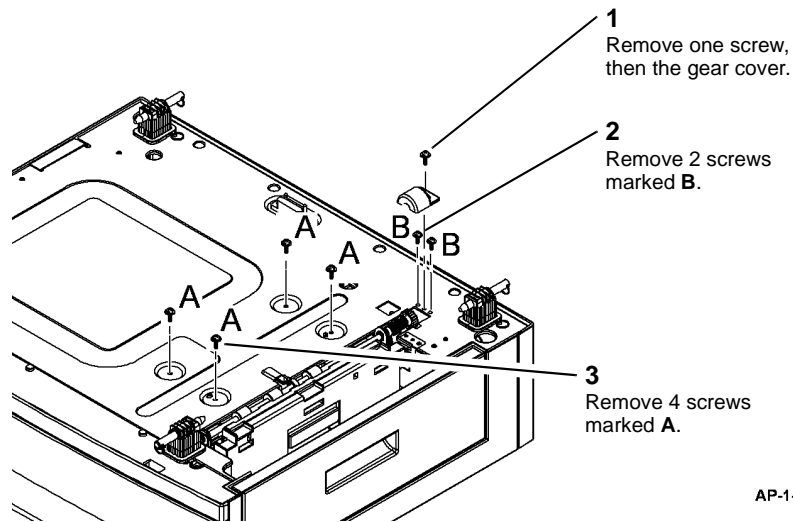

Figure 4 Tray frame preparation
11. Prepare to remove the paper transport and tray feed unit, Figure 4.